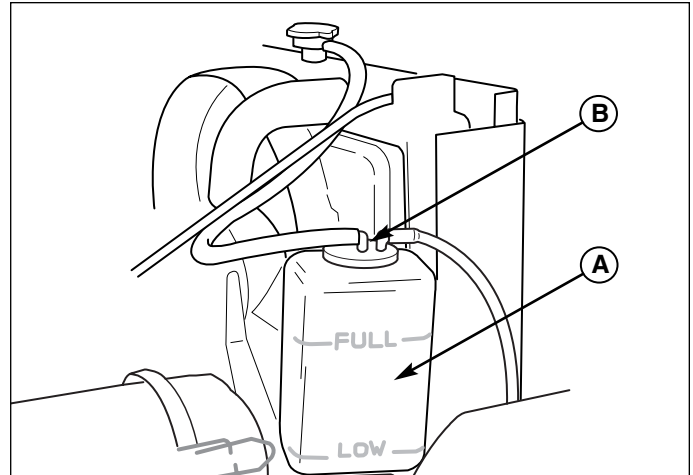

Figure 21. Engine Coolant and Overflow
1. Check the coolant in the overflow reservoir (A, Figure 21). Coolant should be between the "FULL" and "LOW" marks on the tank.
2. If coolant level is below the "LOW" on the overflow reservoir, add coolant by shutting off the engine, allowing the engine to cool, removing the reservoir cap (B, Figure 21) and adding coolant. Refer to Antifreeze container for proper mix ratio of Antifreeze and distilled water.